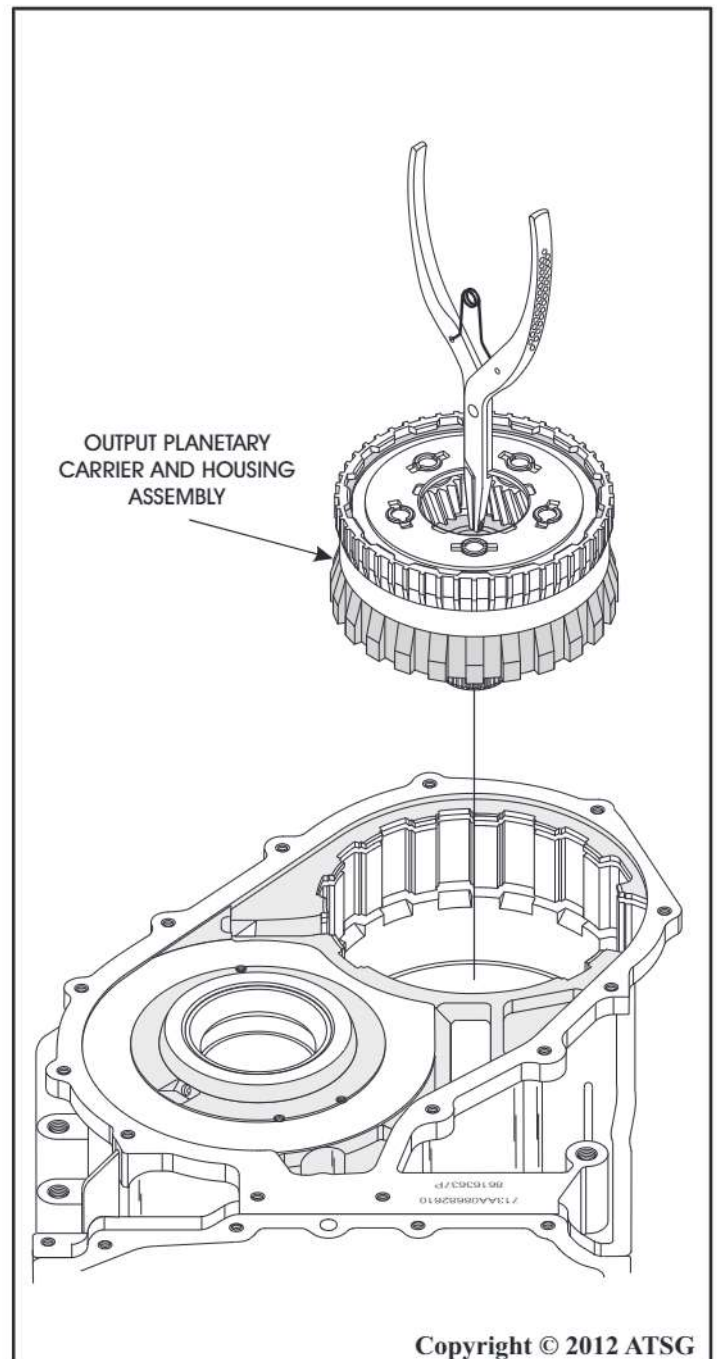

Figure 86
84. Lift the output planetary carrier and housing out of case using a pair of snap ring pliers, as shown in Figure 86, and set aside for the component rebuild section.